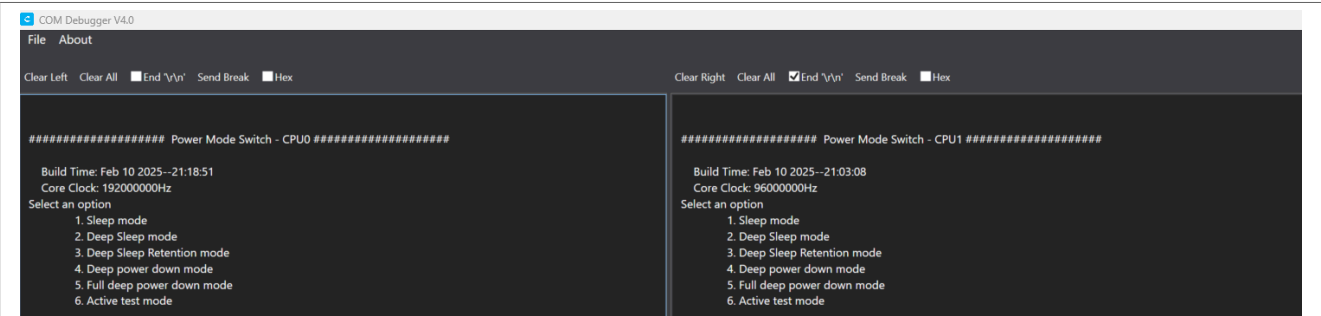
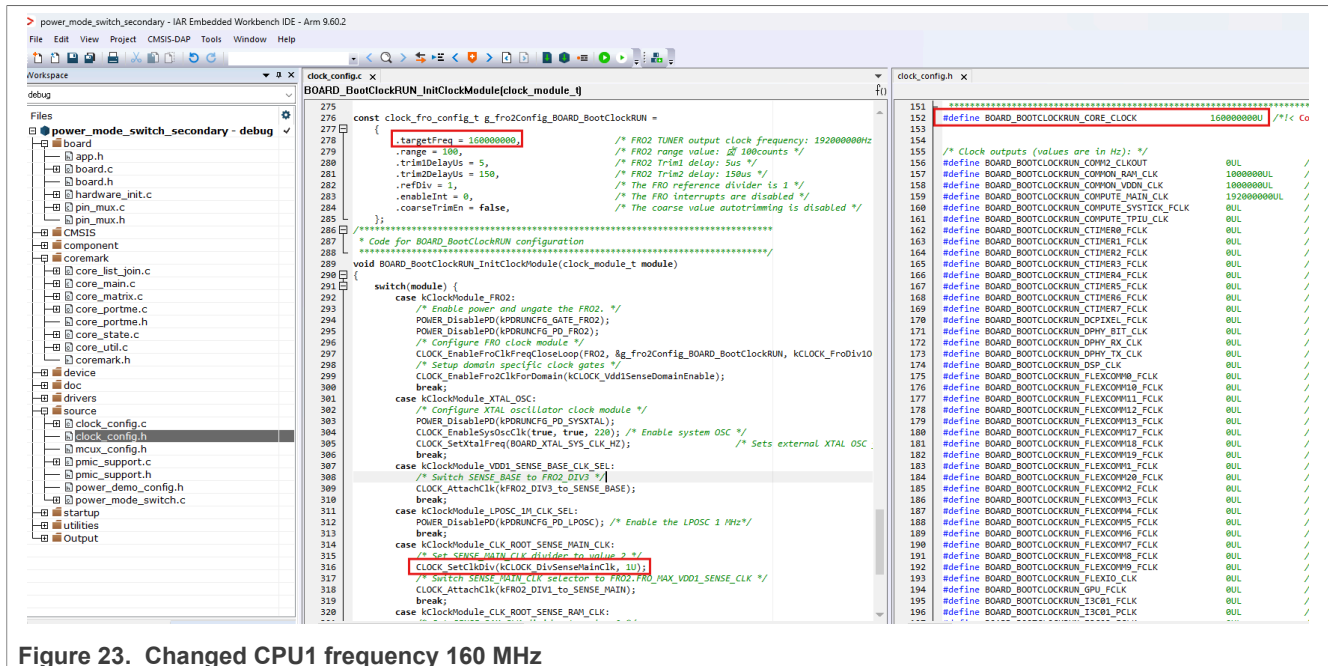

Figure 22. Log from CPU0 and CPU1
Figure 23. Changed CPU1 frequency 160 MHz
9. See step 13 of Section 2.1.1, after the demo boots successfully, see the log from CPU0 com port and CPU1 com port. For more details, see Figure 22. The default setting of the CPU1 is 96 MHz/0.9 V. Take 160 MHz/0.9 V as an example, modify the frequency as shown in Figure 23, and compile the secondary project.
10. See step 11 to step 13 of Section 2.1.1, after the demo boots successfully, see the logs from CPU0 and CPU1 com ports. For more details, see Figure 22. The setting of CPU1 must be 160 MHz/0.9 V.